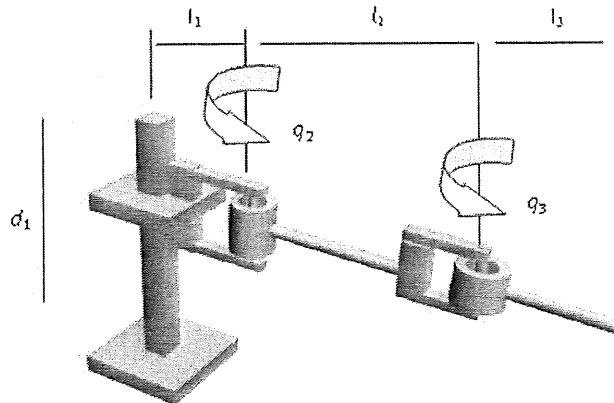

Figure 3
a) For the given three-link PRR manipulator shown in Figure 3: